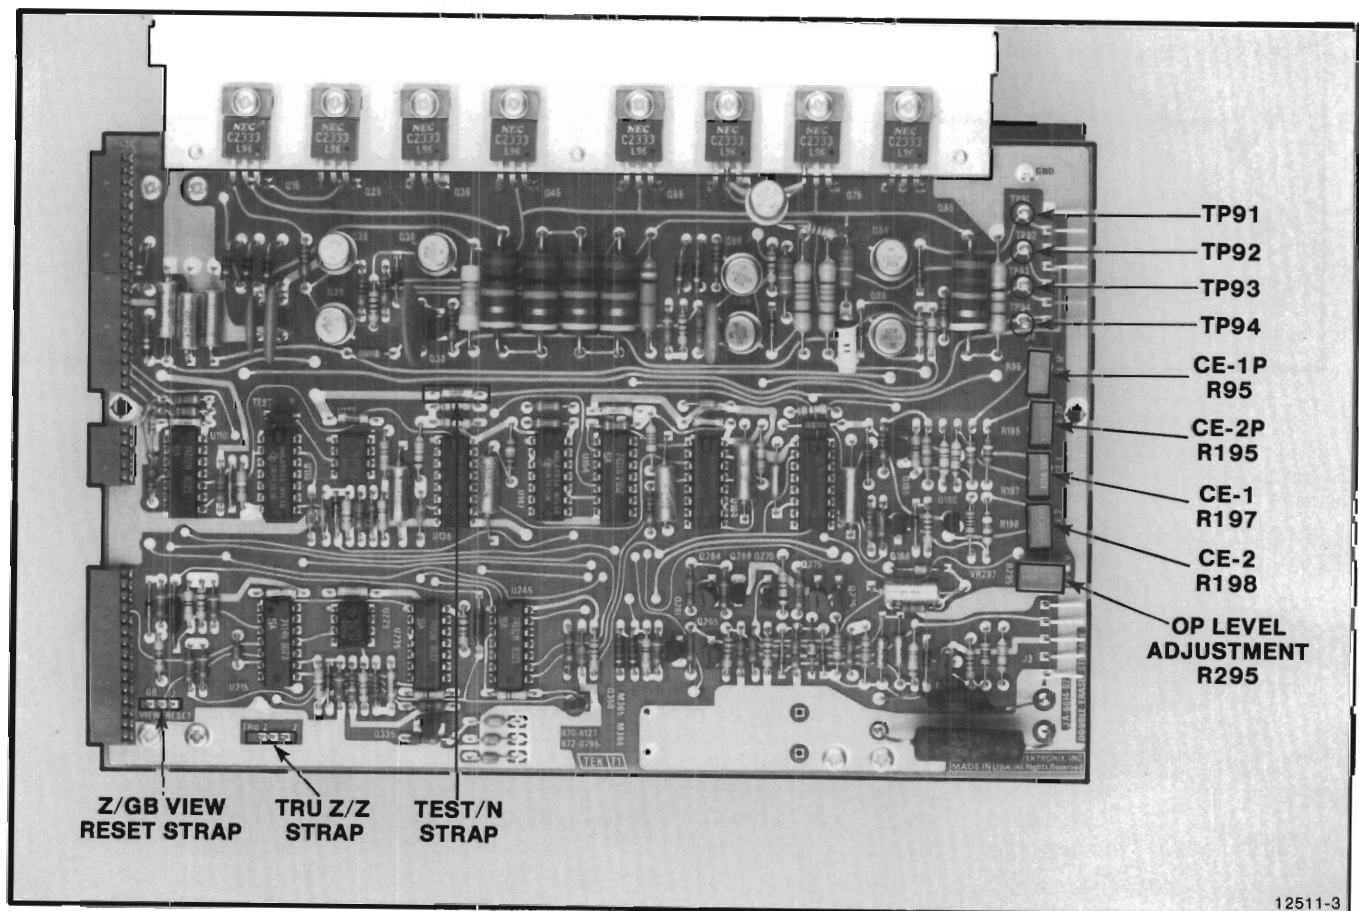

Figure 5-6. Storage Board Adjustments, Straps and Test Points.
12. Check the strap settings on the Storage board. Make sure that the VIEW RESET jumper is set to the GB (lower) position and also that the Z-TRU-Z jumper is set to the TRU-Z (lower) position. Set the NORMAL/TEST jumper to the "N" (top) position. Figure 5-6 shows the location of these straps.
All the test points and adjustments on the Storage board are located across the top edge of the Storage board (Figure 5-6).